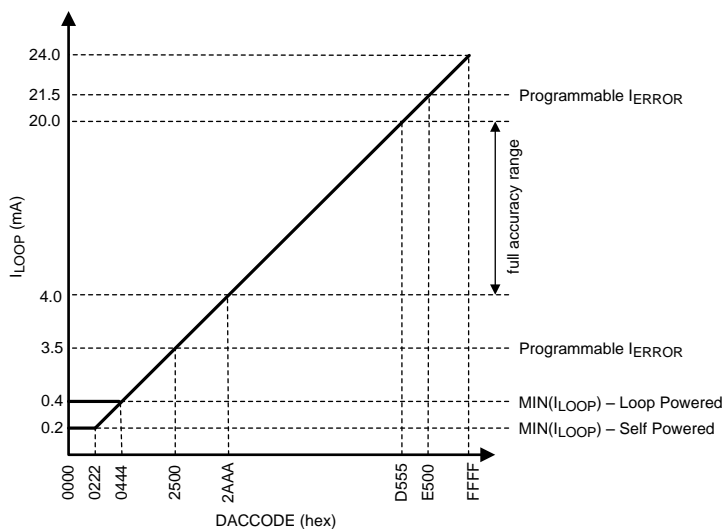

Figure 15. DAC DC Transfer Function
The graph in Figure 15 shows the DC transfer characteristic of the 4 - 20 mA transmitter, including minimum current limits. The minimum current limit for the Loop-Powered Transmitter is typically around 400 μA (ID+IA+IAUX+IE). The minimum current limit for the Self-Powered Transmitter is typically around 200 μA (IE).